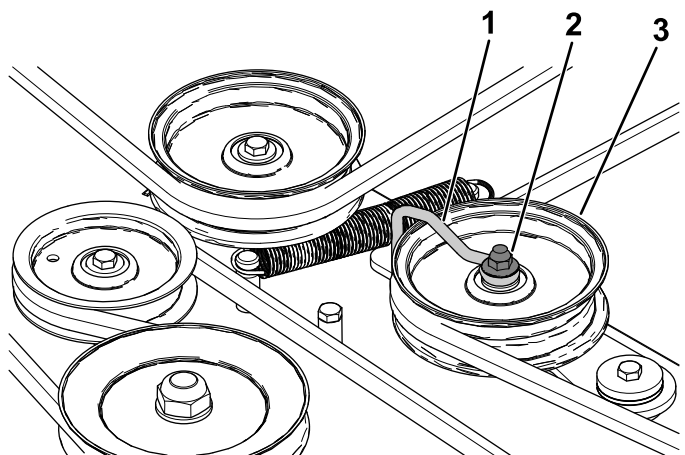

Figure 49
5. Loosen the nut securing the wire form to the idler pulley (Figure 49).
9. Tighten the nut securing the wire form to the idler pulley (Figure 49).
Note: Position the wire form against the idler arm as shown in Figure 49.